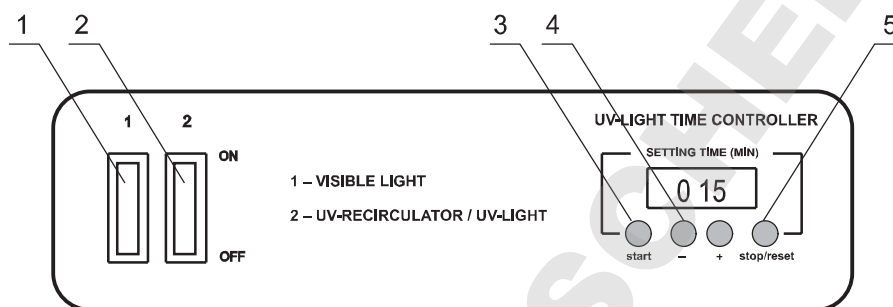

Fig.1. Control Panel
**4.2.2** Turn ON *switch 2* (Fig.1/2). This automatically turns on the UV-recirculator with the hidden UV-lamp and activates the timer of open UV-lamp. The UV-recirculator will operate all the time until *switch 2* is turned OFF.
**4.2.3** Use the timer keys + and - (Fig.1/4) to set the time of direct UV light exposition of the working place:
**4.2.4** Press the key *Start* (Fig.1/3), the open UV lamp automatically will be turned ON and timer starts counting up the exposition time.
Note: The open UV-lamp can be switched off immediately by pressing *Stop/Reset* key (Fig.1/5). The set time of exposition is preserved in the memory. (The set time won't be preserved after the complete switching off the UV-cleaner box).
- 4.3.1 Turn ON *switch 1* (Fig.1/1) for lighting of the working place (this turns ON the white lamp).